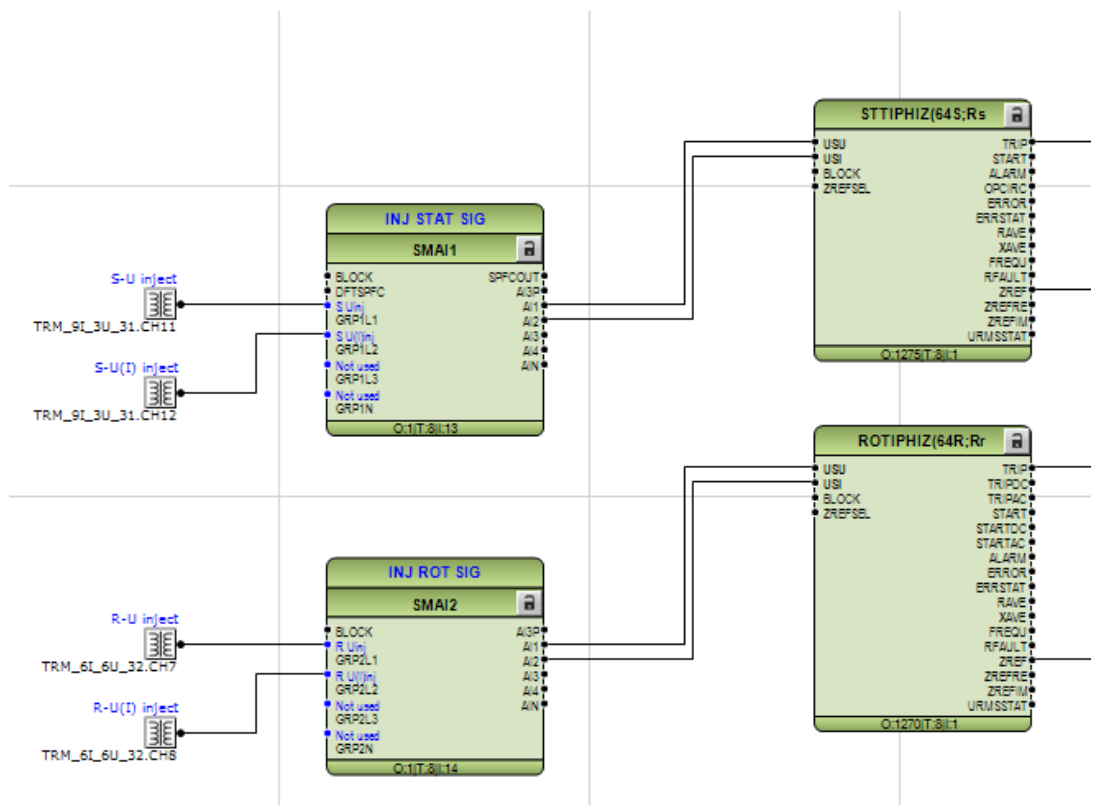

Figure 2: Connection of voltage channels, pre-processing, separate
The Figure 2 shows the application configuration when using the stator and rotor earth fault functions in a separate mode (using four voltage channels). As can be seen, four voltage channels are used, one set for the stator function and another set for the rotor function. The **S-U Inject** is obtained by a galvanic connection of $U_A U_B$ REX060:X61:8,9 and the **S-U(I) Inject** is obtained by a galvanic connection of $I_A I_B$ REX060:X61:10,11 from the SIM module (figures 40 in 1MRK502029-UEN). Similarly, the **R-U Inject** is obtained by a galvanic connection of $U_A U_B$ REX060:X81:8,9 and the **R-U(I) Inject** is obtained by a galvanic connection of $I_A I_B$ REX060:X81:10,11 from the RIM module (figures 41 in 1MRK502029-UEN).
The separate signals shall be connected to separate pre-processing functions SMAIs and then to the **USU** and **USI** inputs of the stator (STTIPHIZ) and rotor (ROTIPHIZ) functions as shown in Figure 2.